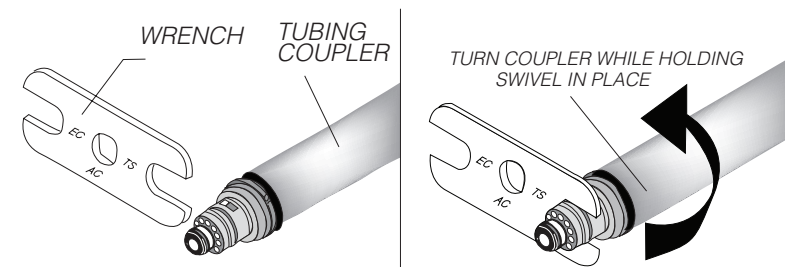

FIG. 4
- Using the wrench as shown, (Fig. 4) tighten the swivel to the tubing coupler. Be sure to turn tubing coupler, not swivel. DO NOT OVER TIGHTEN.